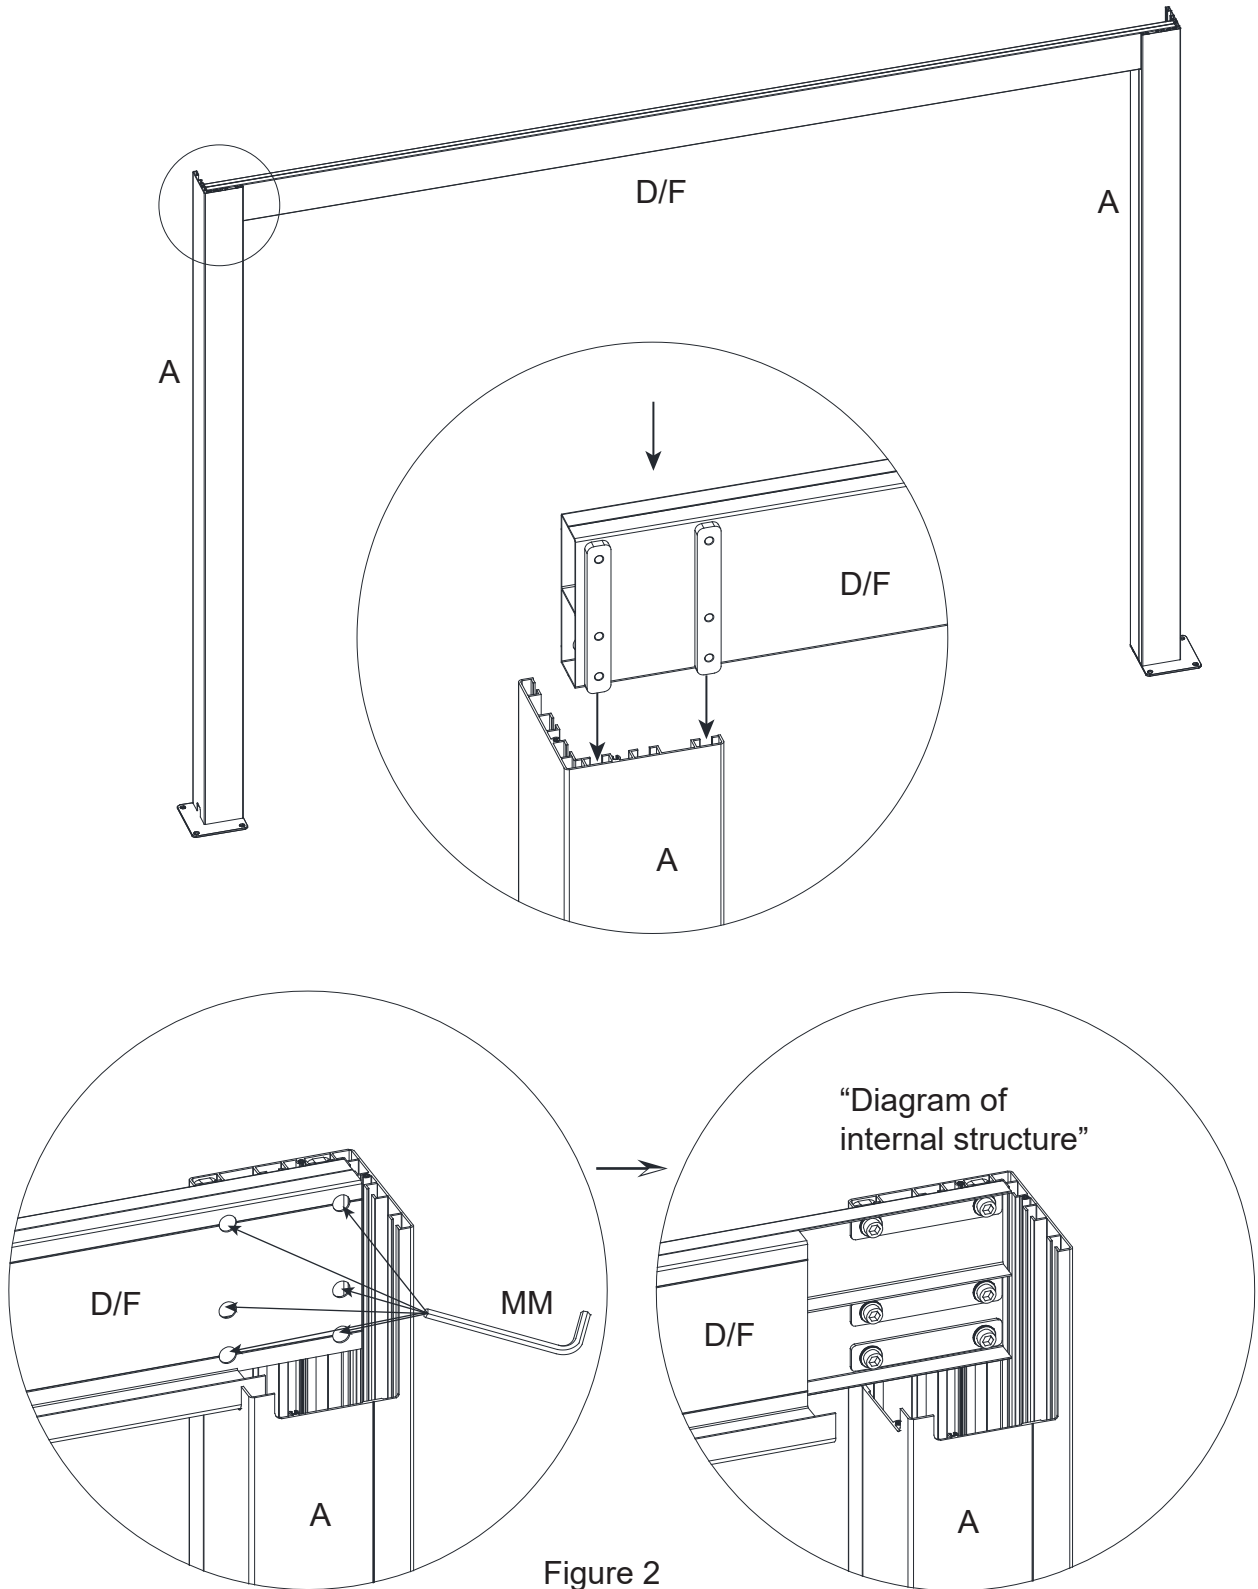

Figure 2
1. Connect the Base Plate (J) and Corner Post (A) together and secure with Bolts (OO). See Figure 2.
2. Slide the ends of the Front Lintel (D/F) into the groove in the Corner Post (A) and tighten the bolts in the Front Lintel (D/F) with the Allen Wrench (MM). See Figure 2.